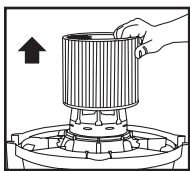

FIGURE 9
15. Slide the cartridge filter off the lid cage. **FIGURE 9.**